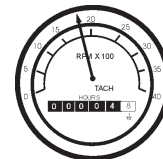

Figure 48. Engine Tachometer Gauge
12. The **tachometer gauge** (Figure 48) will indicate the speed of the engine when the generator is operating. Under normal operating conditions this speed is approximately 1500 RPM's.